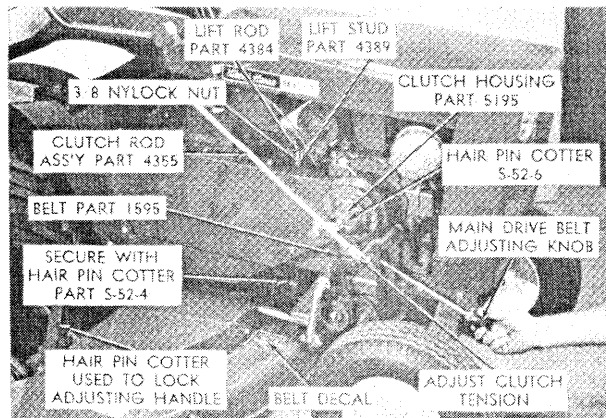

Figure 7
Slip clutch housing, Part 5195, over clutch plate assembly as shown in Figure 7.
Install belt, Part 1595, as shown in Figure 7. Refer to belt decal on mower deck for arrangement. Adjust belt tension by tightening drive adjustment as shown.
Install clutch rod assembly, Part 4355, as shown in Figure 7 using (2) $\frac{3}{8}$ " nylock nuts, one on each side of the fork shaped rod end. Insert hair pin cotter, Part S-52-6 through clutch housing and into plate on clutch rod. (REFER TO OPERATING INSTRUCTIONS FOR CLUTCH ADJUSTMENT).
The height of cut is adjustable from a minimum of $1\frac{3}{8}$ " to a maximum of 4" by adjusting the gage wheels. The mower can be raised with the hydraulic lift, higher than 4" until the stops touch the frame. This is the transport position. The lock nut on the lift rod (Figure 7) should be adjusted to make sure both stops on the mower are firmly against the tractor frame with the hydraulic lift in the extreme up position.
The main drive belt, Part 1595 goes from the large groove of the engine mounting clutch, over two idler pulleys and then to the upper groove of the center pulley on the mower. (Refer to the belt arrangement as shown on the belt decal on the mower deck). Tension of this belt is adjusted by tightening knob (Figure 7). The blade drive belt, Part 1594, drives the three blades. (Refer to belt arrangement as shown on the belt decal on mower deck, if you replace this belt.)